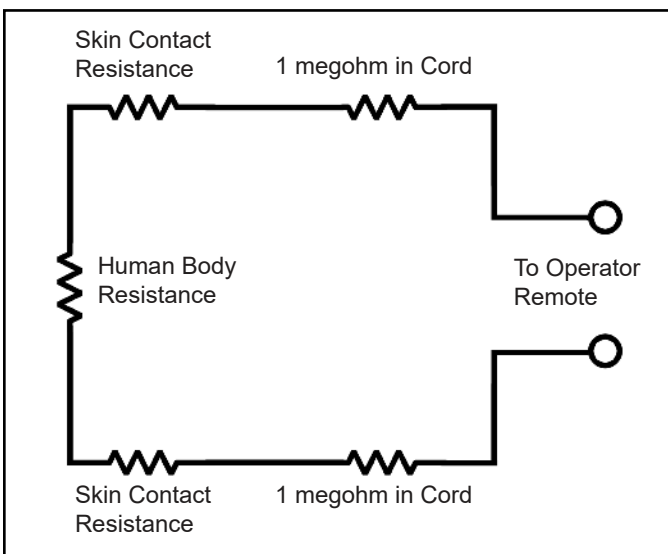

Figure 7. Operator series resistance
2. The respective potentiometers need to be adjusted fully clockwise. The pots are located inside the unit on the bottom board (see Figure 7).
4. Turn the appropriate potentiometer counter-clockwise until the GROUND LED illuminates red and alarm sounds (see Figure 7).